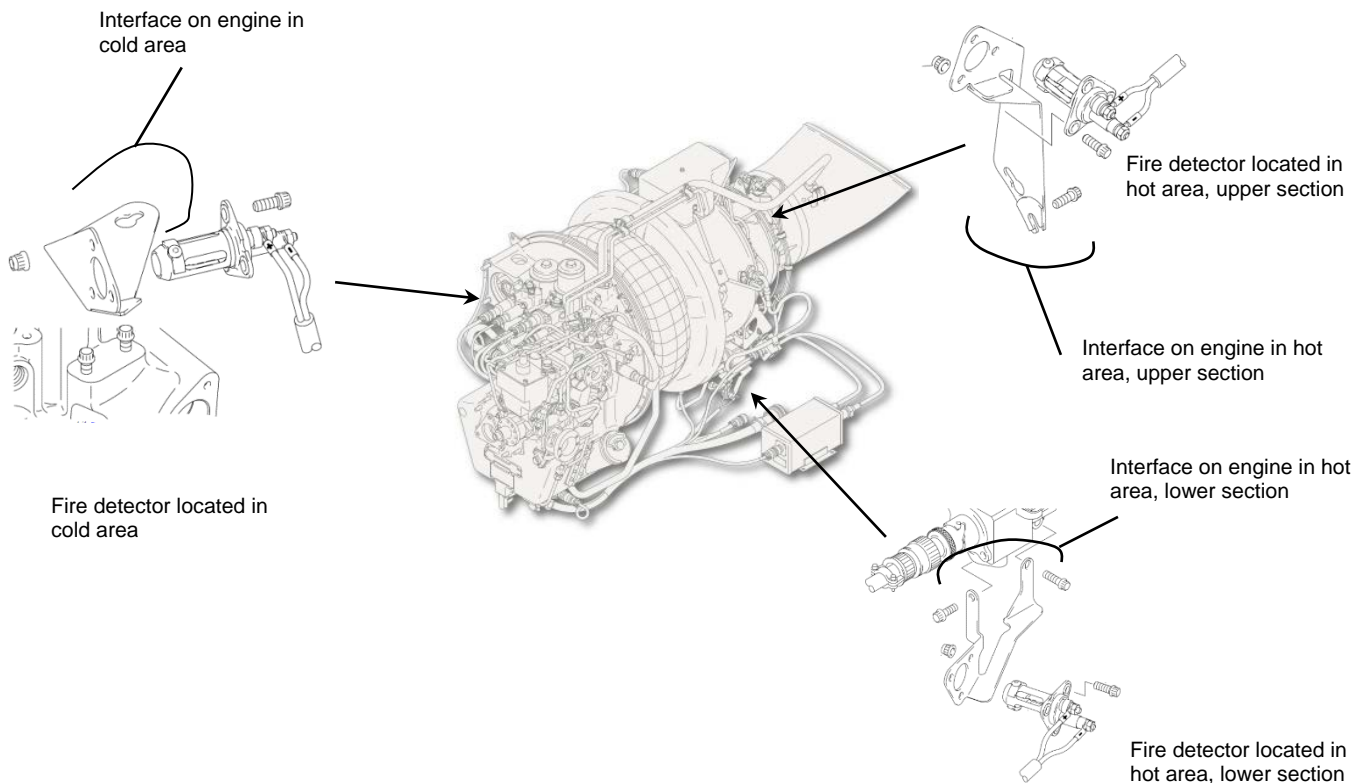

Figure 1
1.1.2. Analysis (Figure 1)
Fire detectors are attached with a screw-nut assembly to supports that are different between the cold area (front part of the engine) and the hot area (rear part of the engine, upper section and lower section) in their shape and their securing interface on the engine (Figure 1). These supports are not interchangeable on the engine.